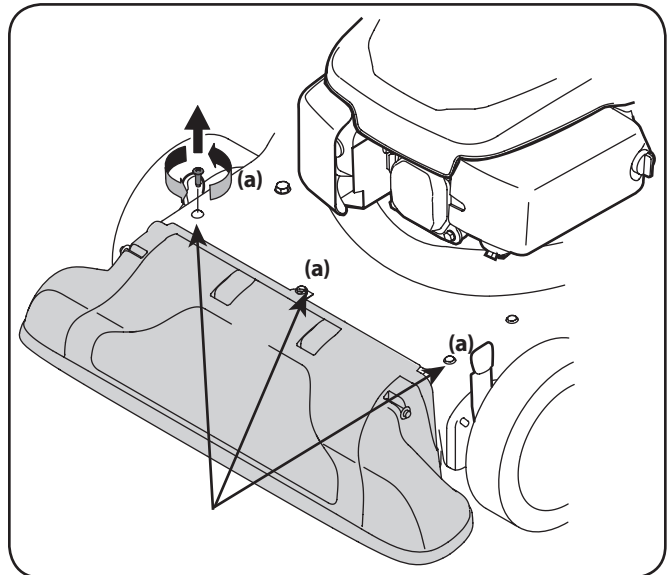

Figure 7-3
6. Remove the three screws (a) on the upper housing that secure the nozzle cover. See Figure 7-3.